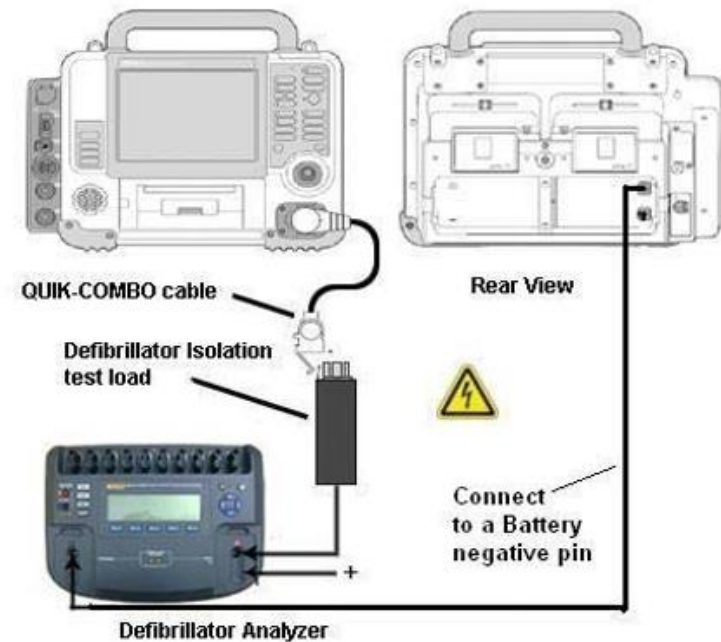

Figure 2.19 Defibrillator Isolation Setup
1. Establish the Apex setup as shown in Figure 2.19.